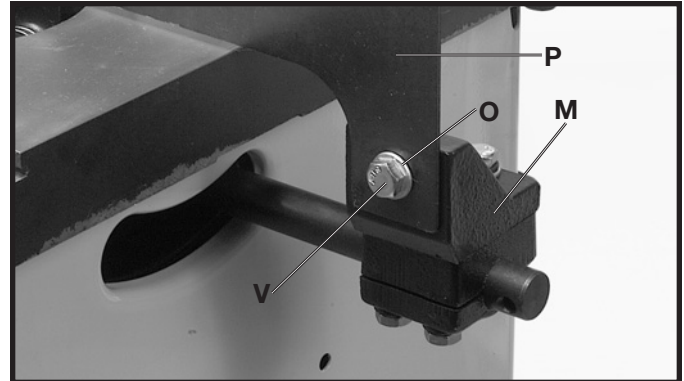

Fig. 24
9. Insert the front end of splitter (P) Fig. 23, inside the splitter mounting bracket behind splitter fastener plate and screw (C). Push splitter down as far as possible, making certain the bottom edge of splitter (P) is parallel with the table surface. Tighten screw (C). Fasten splitter and blade guard assembly (P) Fig. 24, to bracket (M) using a 5/16-18x1" hex head screw (V) and 5/16" flat washer (O).